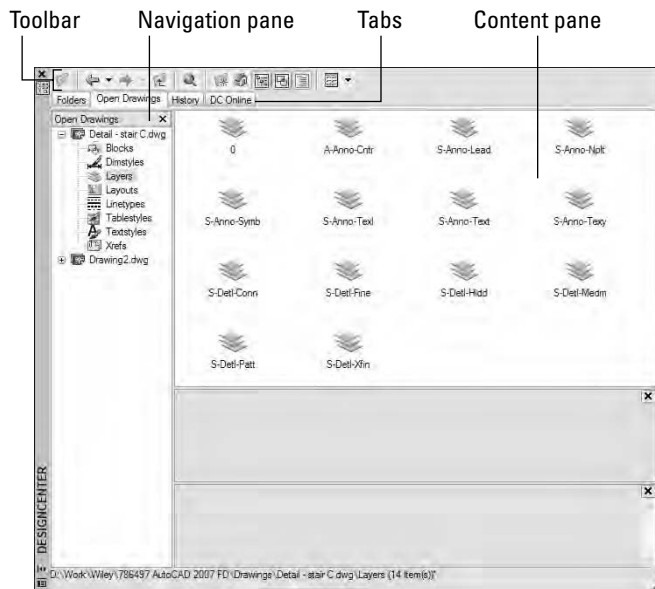

Figure 5-10:
The DesignCenter palette (shown in Figure 5-10) consists of a toolbar at the top, a set of tabs below that, a navigation pane on the left, and a content pane on the right. The navigation pane displays a tree view with drawing files and the symbol tables contained in each drawing. The content pane usually displays the contents of the drawing or symbol table.
5. **If DesignCenter doesn't display the symbol tables indented underneath the source drawing (the one you opened in Step 2), as shown in Figure 5-10, click the plus sign next to the drawing's name to display them.**